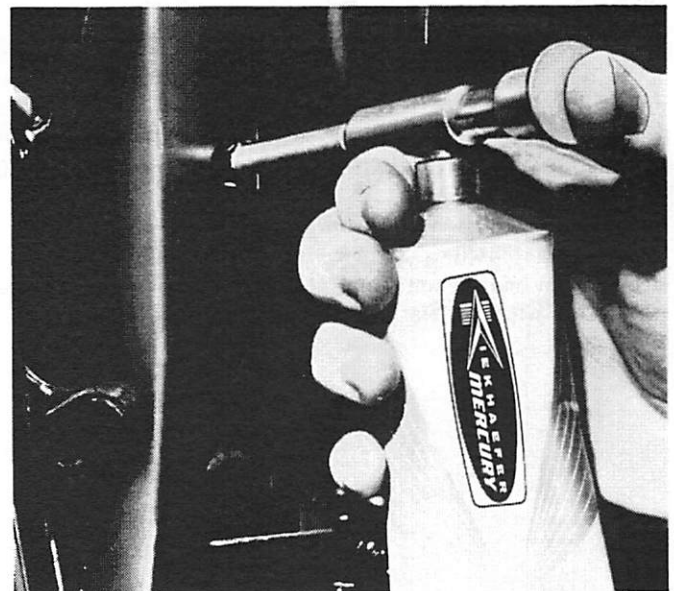

Figure 2. Swivel Pin Lubrication
16. Lubricate swivel bracket. (Figure 2 on Page 11)